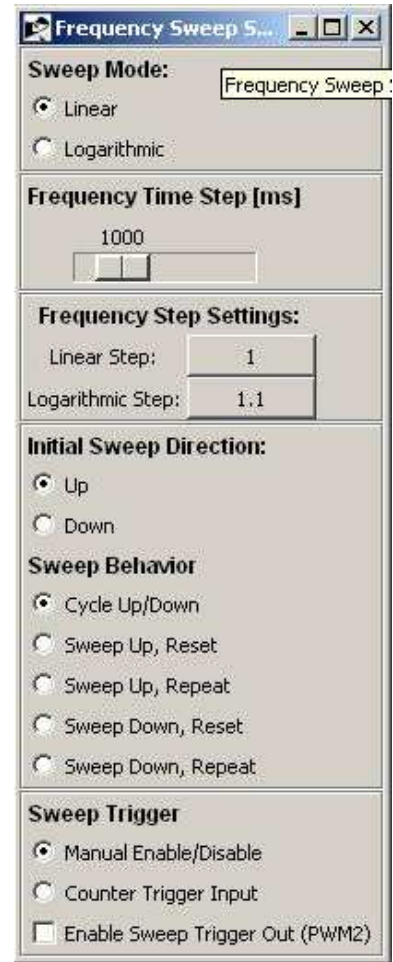

Figure 3: Sweep Mode Control Panel
- Click on the Sweep Settings button to open up the Frequency Sweep Settings control panel, figure 3.